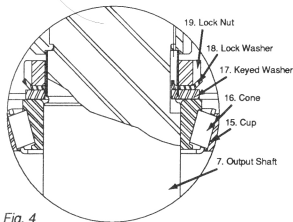

Fig. 4
16. Lift planet carrier assembly (20) from shaft (7).
17. Bend tab on lock washer (18) away from lock nut (19).
18. Using a spanner wrench or HECO tool #29150, unscrew lock nut (19) and remove lock washer (18) and keyed washer (17). (Fig. 4)
15. Stand output shaft (7) and assembled cone securely in vice with input spline of shaft up.
16. Stand housing (12) on shaft. Seat bearing cone (10) against bearing cup (11) in housing.
17. Press bearing cone (16) onto end of shaft (7) or heat bearing cone (16) to approximately 180°-200° and slip into place. (HECO recommends heating the bearing cone) Seat bearing cone against its cup in housing.
18. Install keyed washer (17) and lock washer (18) on threaded end of shaft. Apply never-seize or similar lubricant on threads and thread lock nut (19) onto shaft. It is important to rotate housing to seat bearings while tightening lock nut till housing resists rotation and end play is minimal. (Fig. 4 & 6)
19. Locate tab on lock washer in line with slot on lock nut and bend tab into slot to prevent lock nut from loosening. (Fig. 4)